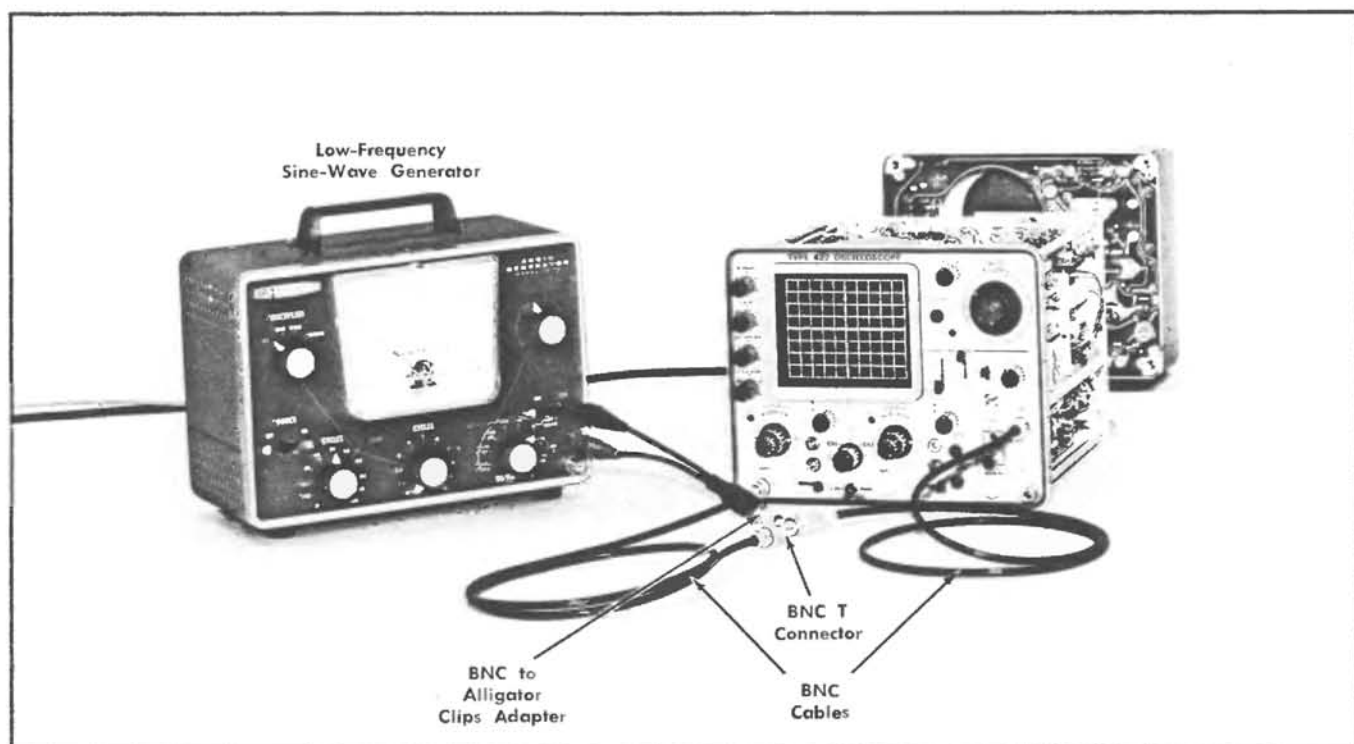

Fig. 6-39. Initial test equipment setup for steps 36 and 37.
- a. Test equipment setup is shown in Fig. 6-39.